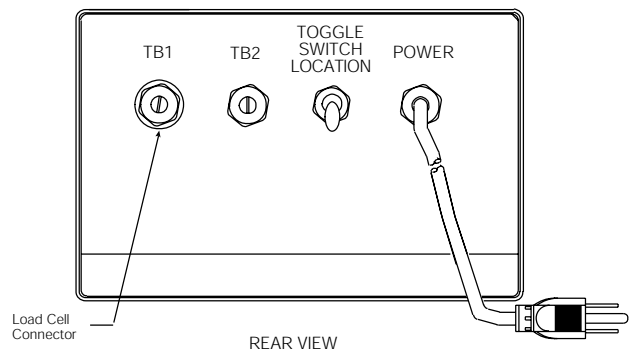

Figure 8-6. Toggle Switch Location
9. Install a toggle switch which is used to flip between AC power and battery power shown in Figure 8-6.